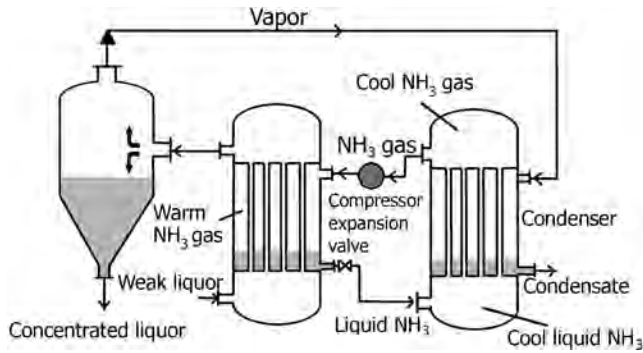

FIGURE 12.4 Heat pump as applied to evaporation.
- Figure 12.4 illustrates the working of a heat pump as applied to evaporation.